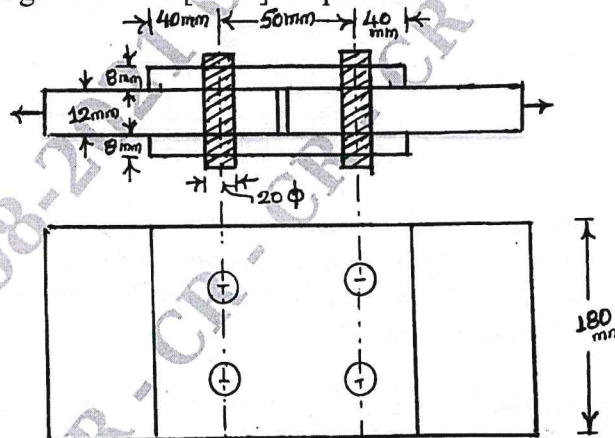

Fig.Q3(b)
b. Find the efficiency of a butt joint shown in Fig.Q3(b). Black bolts of M20 and grade 4.6 and the plates are made of grade Fe410 [E250] are provided.